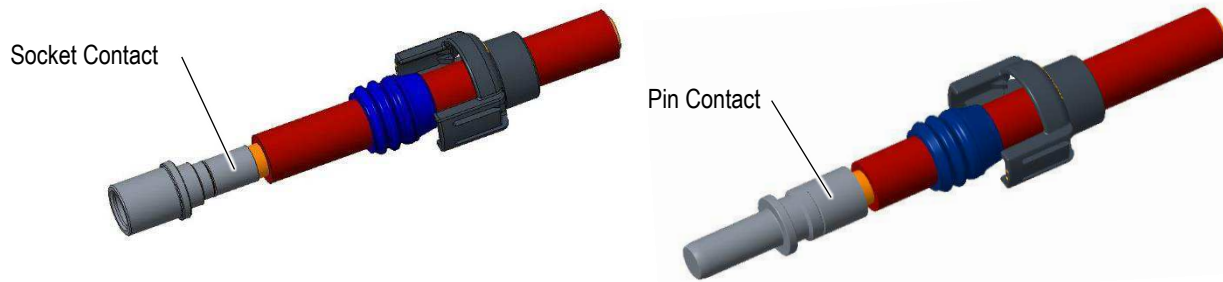

Figure 3
3. Contact to be crimped per specification 114-151039. Strip insulation off the cable according to this spec. Figure 3 shows the complete cable subassembly.